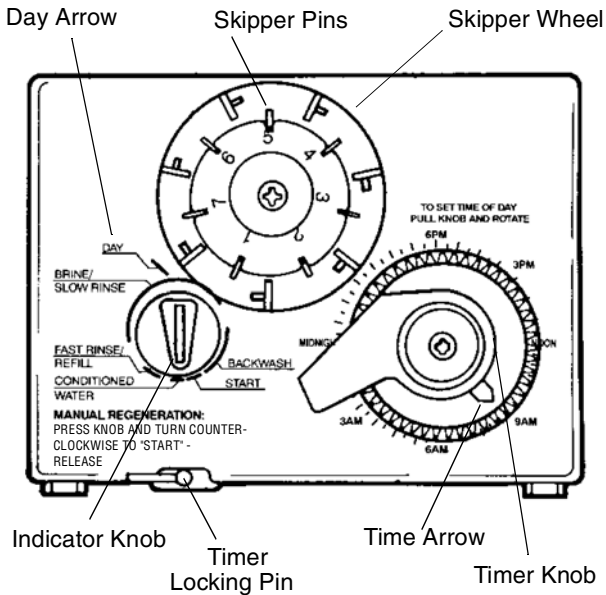
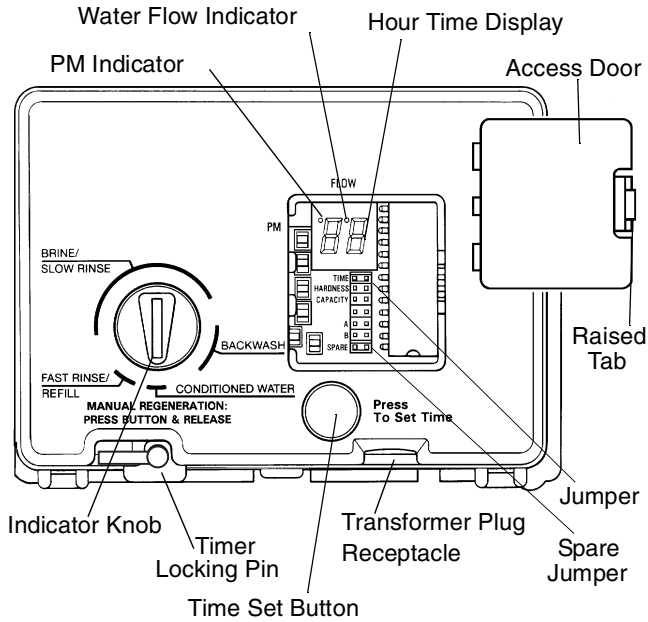

Figure 11
Figure 12
Note: The following steps will require turning the indicator knob (Figure 11) to various positions. Insert a wide-blade screwdriver into arrow slot in indicator knob and press in firmly. With knob held in, rotate **COUNTERCLOCKWISE** only until arrow or knob points to desired position. Rotation is made much easier if you grasp the camshaft with your free hand and turn it at the same time. Then permit knob to spring back out.
2. Insert screwdriver into slot in indicator knob (Figure 11). Press in and rotate knob **COUNTERCLOCKWISE** until arrow points directly to the word **BACKWASH**.
1. Set days of regeneration on skipper wheel (Figure 11).
Note: The Timer Locking Pin should always be horizontal (Figure 11) during operation.
Open the access door by pushing the raised tab on the door toward the left while pulling the tab out (Figure 12).
Note: The Timer Locking Pin should always be horizontal (Figure 12) during operation.
When abnormally high water usage exhausts your water conditioner’s capacity ahead of schedule, an extra regeneration can be achieved. Depress the indicator knob on the 440i (Figure 11) with a wide-blade screwdriver and turn **COUNTERCLOCKWISE** to **START** to initiate a regeneration. For the 460i, simply depress the indicator knob (Figure 12). It will take a few minutes for regeneration to start. A normal regeneration will take approximately two hours.